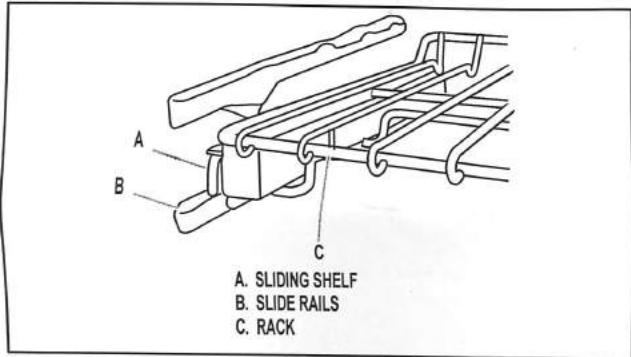

FIGURE 1
6. To remove the roll-out rack, push the sliding shelf in completely so that it is closed and engaged with the slide rails. See Figure 1.